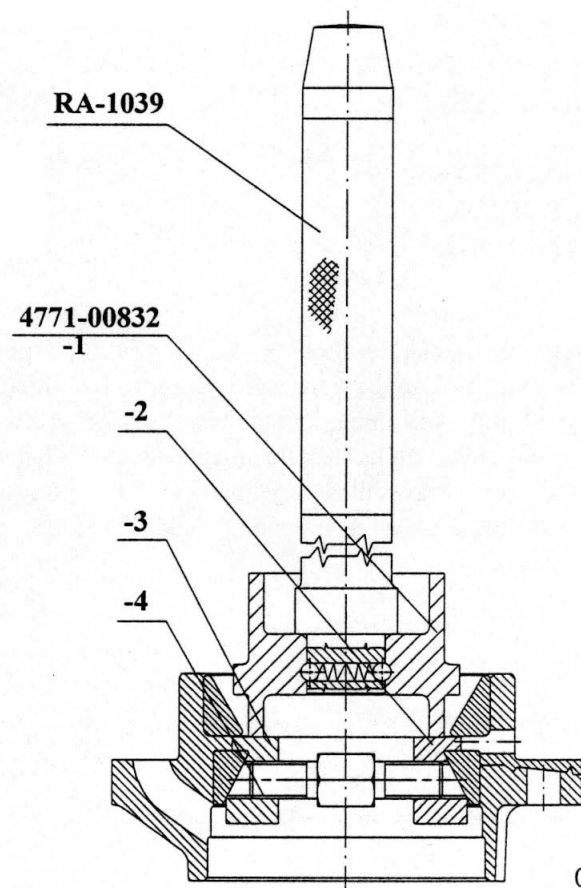

Fig. 4.: DRIVING OUT THE TAPER ROLLER BEARING OUTER RACE
If only the taper roller bearings are to be replaced, install the taper roller bearing outer races according to the Fig. 4, 5, 6, 7.
Drive out the outer taper roller bearing outer race (9) from the bearing cage by means of the tools shown (Fig. 4.)